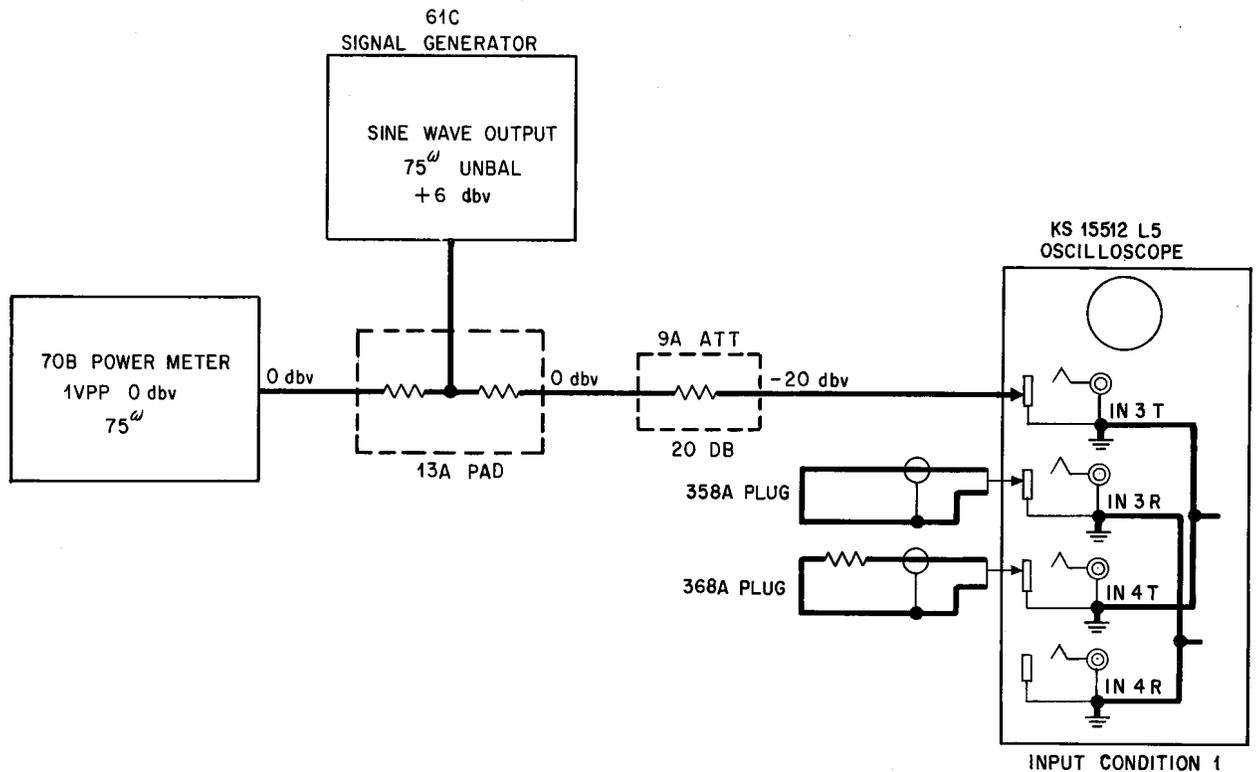

Fig. 9 – Vertical Amplifier Sensitivity
(1) Set up the equipment as illustrated in Fig. 9. Set the oscilloscope for input condition 4 (Paragraph 1.07). Set the BANDWIDTH switch to WIDE position and the INPUT switch to 1:1 position and the V GAIN control maximum clockwise. Set the signal generator for a 1-volt peak-to-peak, 60-cycle sine wave with a level of 0 dbv as read on the power meter. The amplifier sensitivity should indicate a vertical deflection of 0.5 inch (10 divisions on graph paper) or better. Record the deflection.
(2) Operate the INPUT switch to the 10:1 position and remove the 20 db 9A attenuator from the line. The resulting deflection should be within \pm 10% of that noted in Paragraph (1) above.